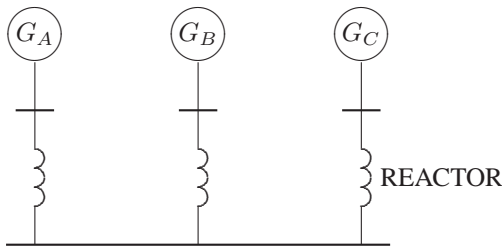

FIGURE 83
10.11. Three 15-MVA, 30-kV synchronous generators A, B, and C are connected via three reactors to a common bus bar, as shown in Figure 83. The neutrals of generators A and B are solidly grounded, and the neutral of generator C is grounded through a reactor of $2.0 \ \Omega$. The generator data and the reactance of the reactors are tabulated below. A line-to-ground fault occurs on phase a of the common bus bar. Neglect prefault currents and assume generators are operating at their rated voltage. Determine the fault current in phase a .